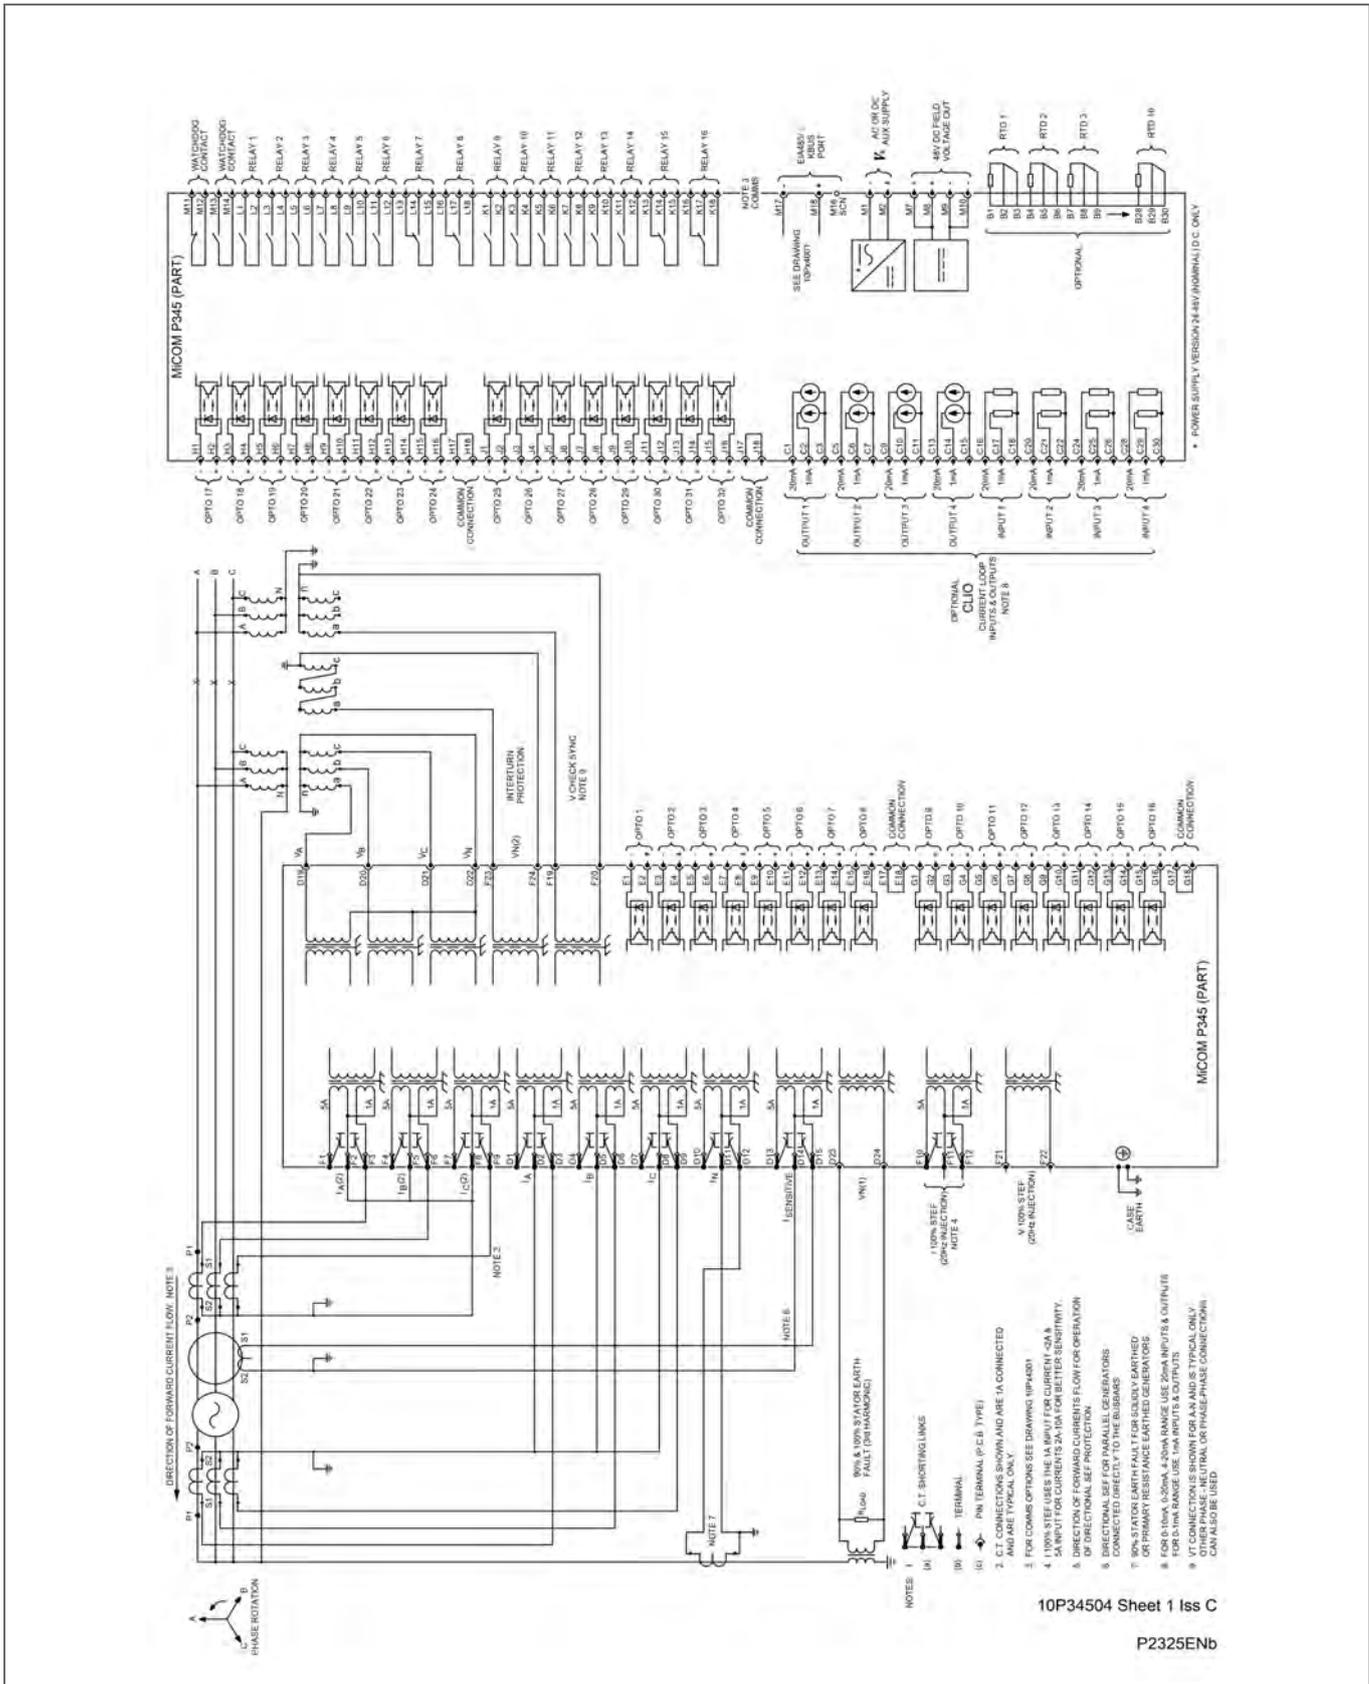

Figure 88 - P345 (80TE) with 90% & 100% (3rd Harmonic) stator earth fault & interturn protection (32 I/P & 16 O/P & CLIO & RTD)
- Figure 88 - P345 (80TE) with 90% & 100% (3rd Harmonic) stator earth fault & interturn protection (32 I/P & 16 O/P & CLIO & RTD)